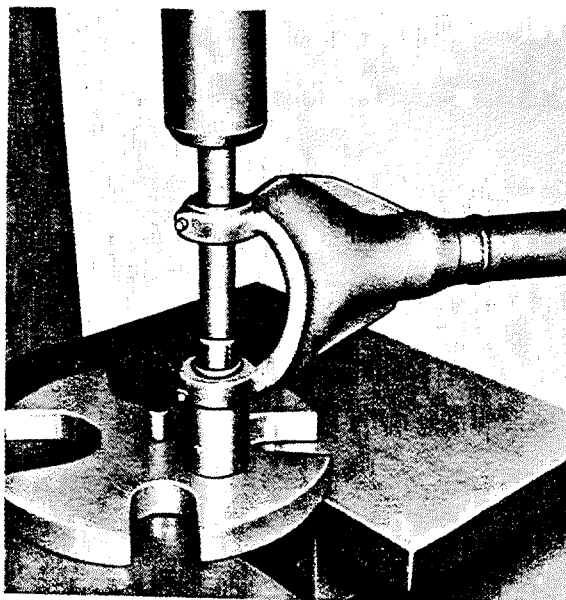

Fig. H 3a/12
12. Pull grease retainer on right-hand rear axle tube out and remove rubber boot. Press the two rear axle tube supporting bushings only out if they are worn or damaged (Fig. H 3a/12). The same applies to the supporting tube.